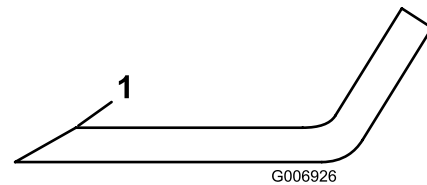

Figure 90
5. Inspect the cutting edges of all blades. Sharpen the cutting edges if they are dull or nicked. Sharpen only the top of the cutting edge and maintain the original cutting angle to make sure of sharpness (Figure 90).